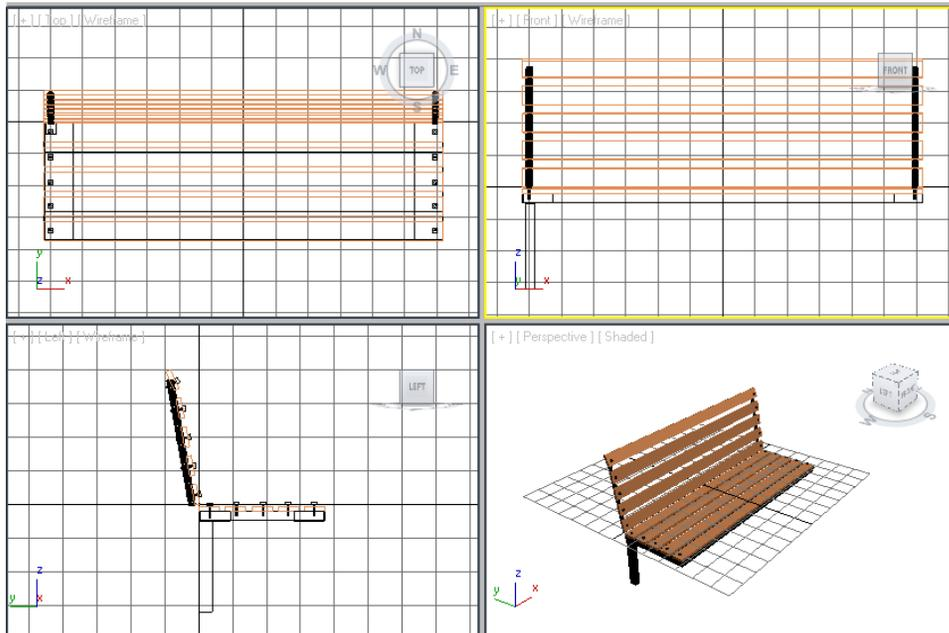

Figure 2-87 Alignment of *leg001* in viewports
5. Choose the **Select and Move** tool and align *leg001* with *leg support001* in viewports, refer to Figure 2-87. You need to adjust the viewport to display all objects properly using the **Zoom** and **Pan View** tools.